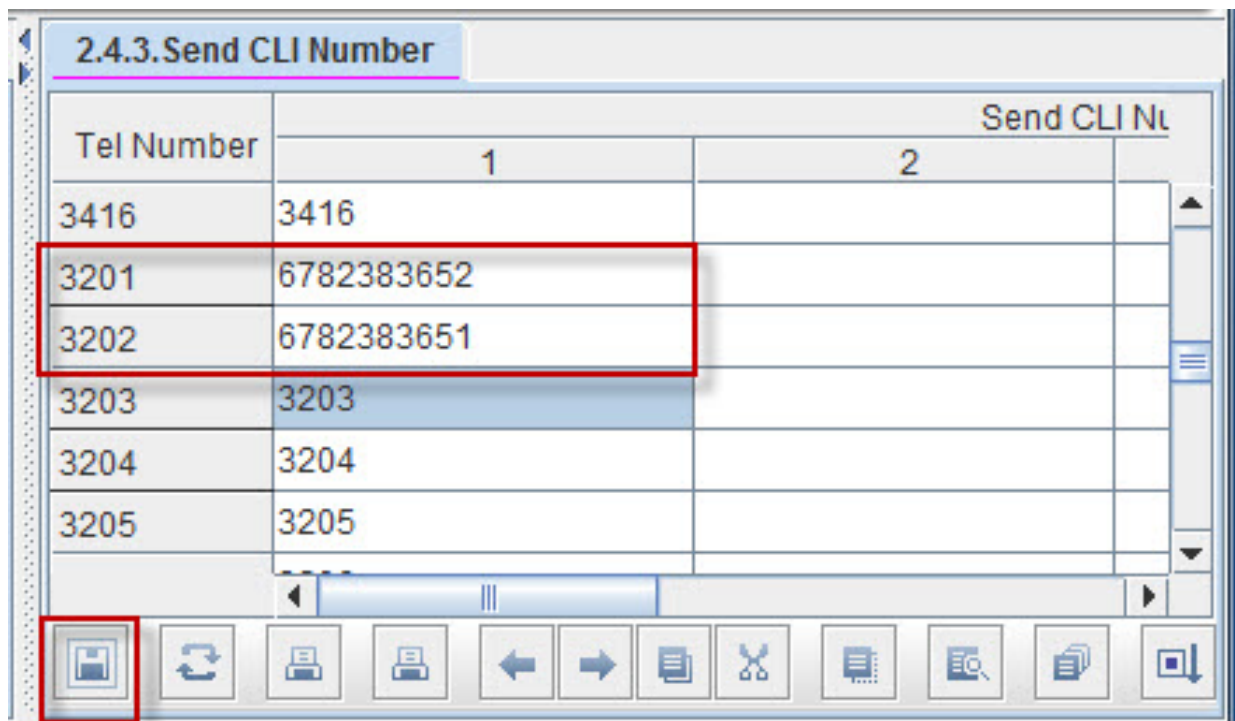

Figure 36 Send CLI Number (2.4.3)
2. Enter the toll free or other telephone number instead of the 10-digit DID number to be displayed for each extension in **Figure 36** above.